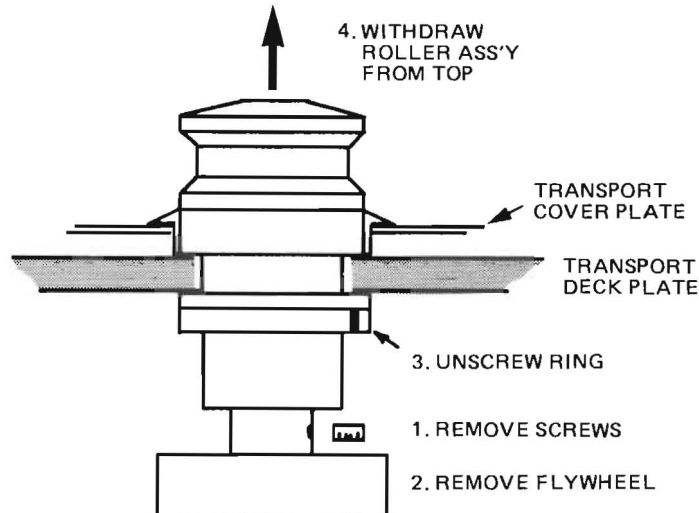

FIGURE 10-2. IMPEDANCE ROLLER DISASSEMBLY
1. Loosen the two allen head set screws that secure the fly wheel to the bottom of the roller shaft (below the transport), and slide the fly wheel off the shaft. Refer to figure 10-2.